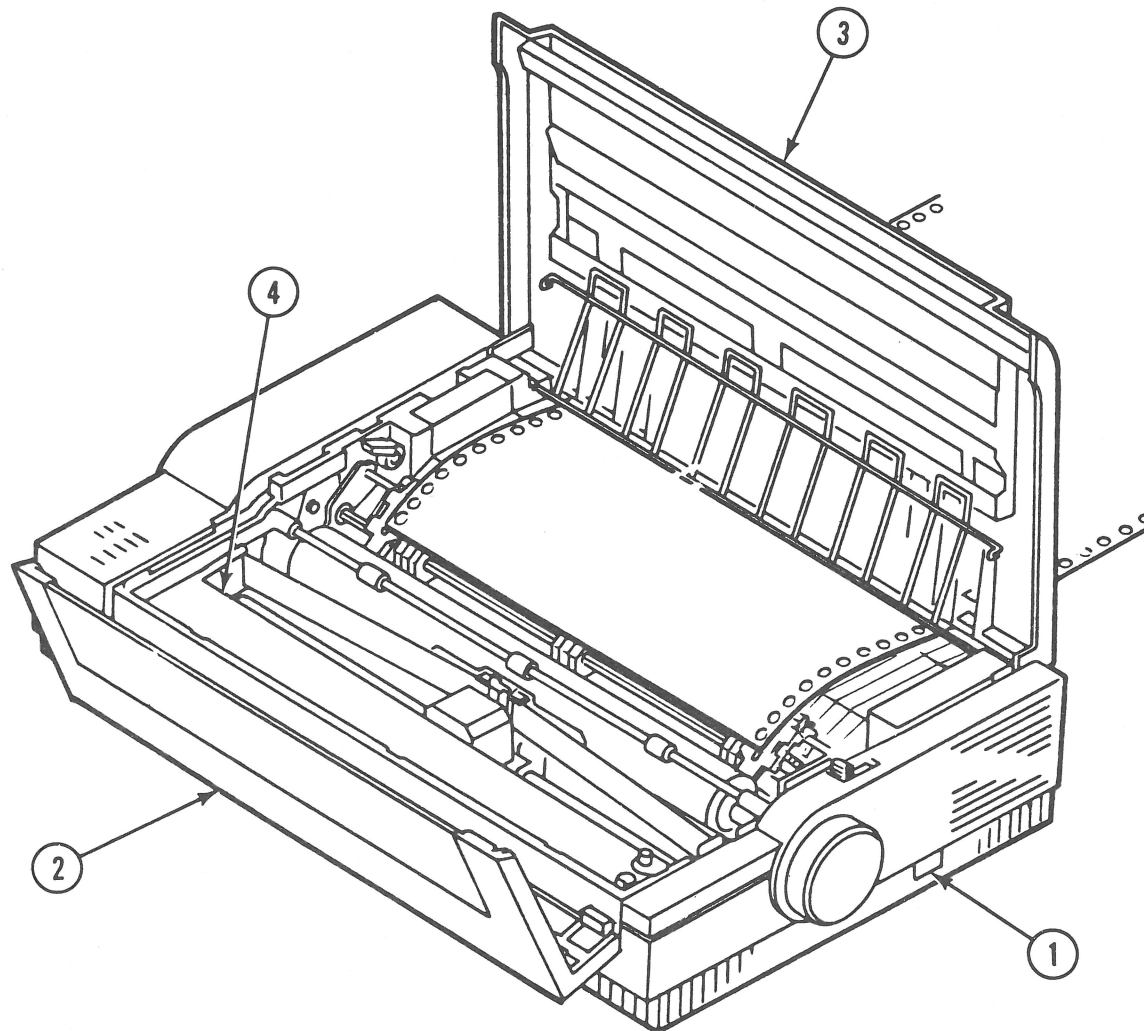

FIGURE 1
1. Make sure the power is off (Figure 1, #1).
2. Open the front cover (Figure 1, #2) and then the back cover (Figure 1, #3) of the printer.
3. Remove the paper and the ribbon cartridge (Figure 1, #4). (Refer to Section 1, Basics.)